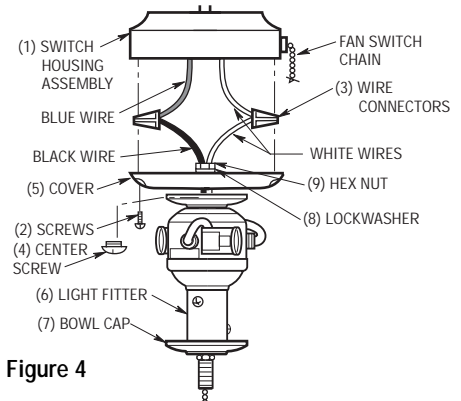

Figure 4
8. Attach the cover/light fitter(5)(6) to the switch assembly housing(1) using the two screws(2) that were removed in Step 2) (Figure 4.)
2. Remove the cover(5) from the fan switch housing(1) by removing the two outer screws(2). (See Figure 4).